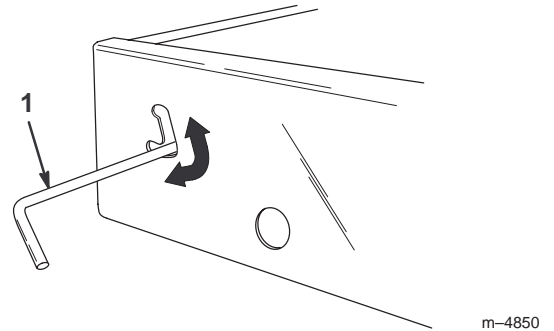

Figure 10
1. Slide the latch upward toward the top of the cutout in the bed frame (Fig. 10).
3. To secure the bed tightly to the bed frame, move the latch to the lower section of the cutout (Fig. 10).